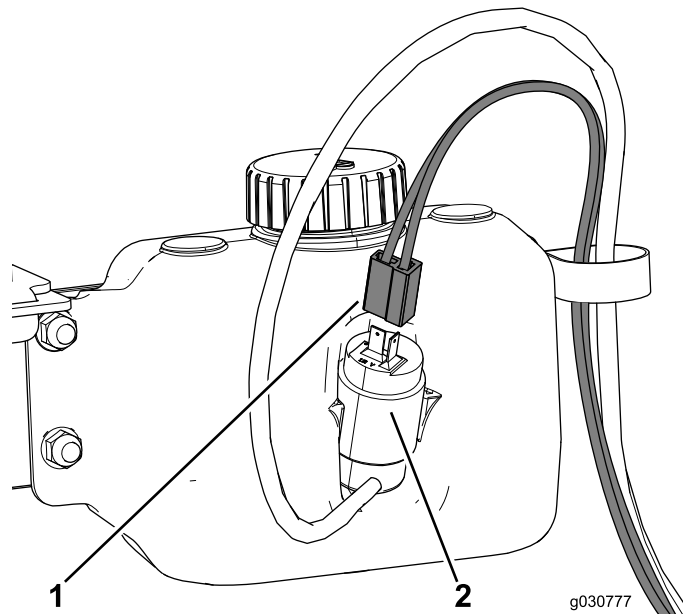

Figure 48
4. Route the wire harness for the washer bottle through the R-clamp and connect it to the bottle (Figure 48).